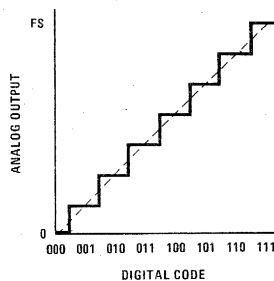

FIGURE 1. Linear DAC Transfer Curve Showing Minimum Resolution Error and Best Possible Accuracy
**Accuracy** is sometimes considered to be a non-specific term when applied to D/A or A/D converters. A linearity spec is generally considered as more descriptive. An accuracy specification describes the worst case deviation of the DAC output voltage from a straight line drawn between zero and full scale; it includes all errors. A 12-bit DAC could not have a conversion accuracy better than  $\pm \frac{1}{2}$  LSB or  $\pm 1$  part in  $2^{12+1}$  ( $\pm 0.0122\%$  of full scale due to finite resolution). This would be the case in figure 1 if there were no errors. Actually,  $\pm 0.0122\%$  FS represents a deviation from 100% accuracy; therefore accuracy should be specified as 99.9878%. However, convention would dictate  $\pm 0.0122\%$  as being an accuracy spec rather than an inaccuracy (tolerance or error) spec.